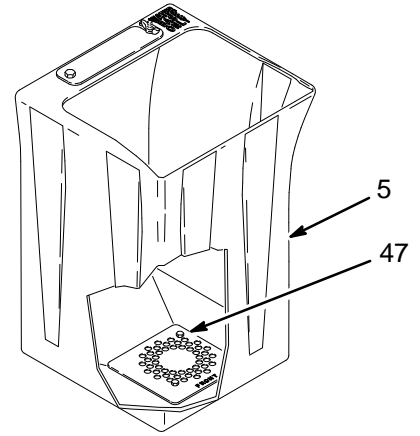

Fig. 13
2. Trigger the gun into a pail to lower the fluid to the hopper strainer (47) level. See Fig. 13.
3. Fill the hopper (5) about half full with clean water, depending on the hose length. Clean the inside of the hopper with a brush, if needed.